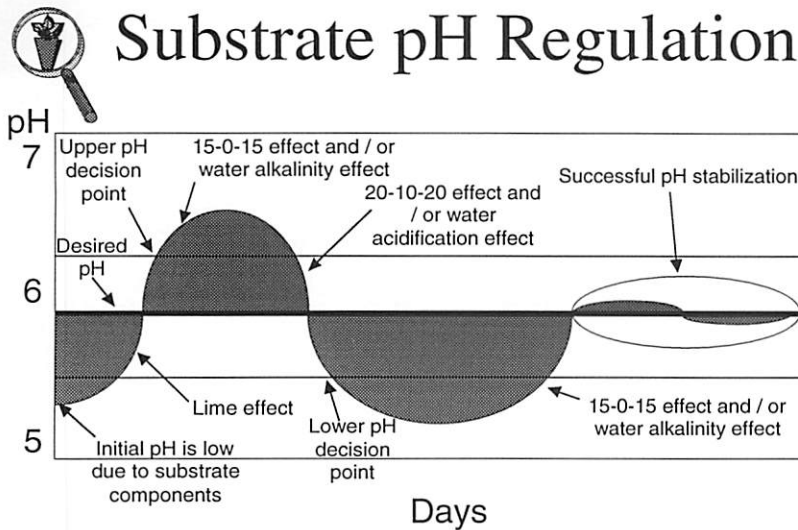

Figure 3. An example pH regulation strategy based on a desired pH of 5.9.
The example pH plot in Figure 3 is assuming a pH base line of 5.8; an upper decision limit of 6.2; and a lower decision limit of 5.4. For this hypothetical species, a grower would target pH 5.8 when adding the liming components into the substrate prior to seeding. They would want to take corrective measures to lower pH if sampling showed a substrate pH of 6.2 or above. Corrective measures to lower pH include: ❶ acidifying your water down to pH 5.8 (neutralizing ~80% of the alkalinity in your irrigation water); ❷ discontinuing the use of basic residue fertilizers, such as calcium nitrate and using acid-residue fertilizers to lower the pH, if plants are capable of tolerating the ammoniacal nitrogen; and ❸ in severe cases, drenching with aluminum sulfate or iron sulfate to rapidly lower pH. The substrate pH would need to be raised if it fell below 5.4. Corrective measures to raise pH include: ❶ discontinuing irrigation water acidification, if any is employed; ❷ using basic-residue fertilizers to raise the substrate pH; and ❸ in severe cases, injecting potassium bicarbonate to increase the alkalinity of your irrigation water to increase the substrate solution pH.
There is still much to learn about pH regulation and how to incorporate it into a nutrition program. We have only begun to outline standards, but we hope to eventually create control graphs similar to Figure 3 for most bedding plant species produced. Through careful monitoring and precise production management, pH-related nutrition problems can be avoided.